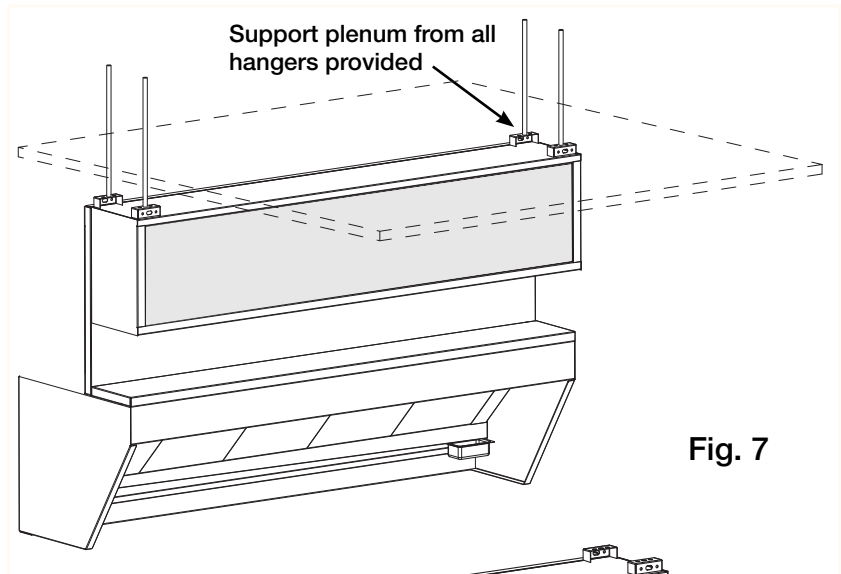

Fig. 7
2. Insert 1/2 in. (12.7 mm) diameter threaded rod (by others) into all of the hanger brackets on the supply plenum top. Raise external supply plenum and hang level from adequate roof or ceiling supports. (Horizontal Supply Plenum shown in Fig. 7, must be below finished ceiling. Air Curtain Supply Plenum may be fit into drop ceiling.)